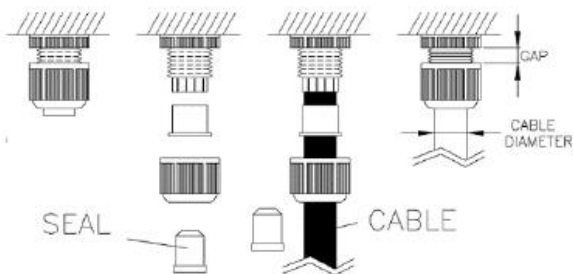

Fig.1
- 1 Cable diameter : $\varnothing 7.8 \sim \varnothing 12.7$ mm. Cable gland nut's gap refer to Fig.1 & 2.